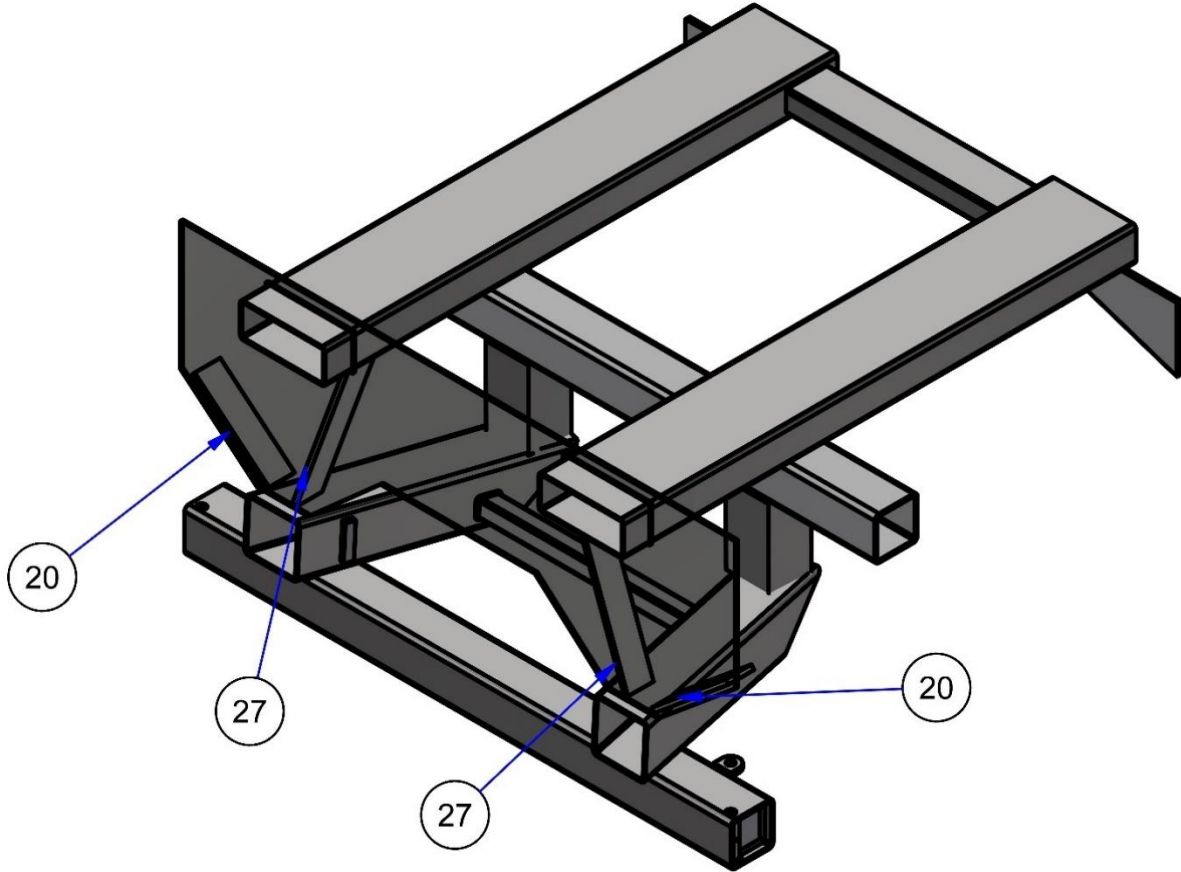

Figure 11 (60 x 10 Flat bars)
2. Measure and cut four pieces to size, then weld them to the rear of the back plate as shown in Figures 11 and 12